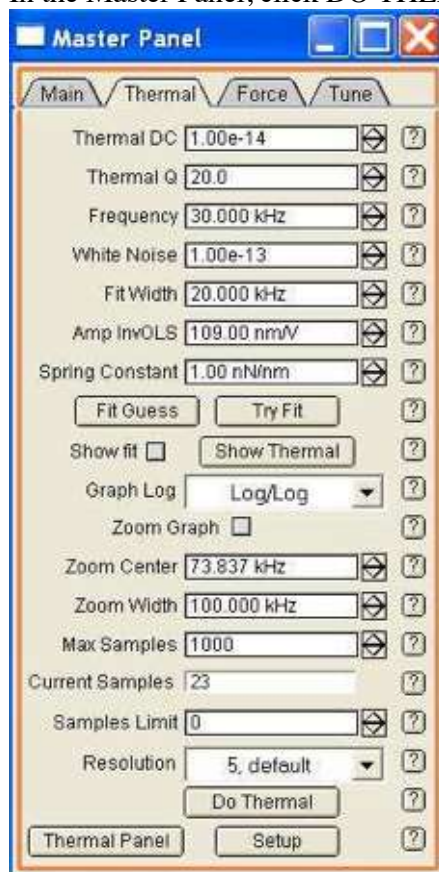

Figure 10.6 Master Panel, Thermal
1. In the Master Panel, click the Thermal tab to bring it to the front of the window (See: Figure 10.6 Master Panel, Thermal)
4. After a few tens of samples you will notice the graph does not change much. Click 'STOP THERMAL.' (See: Figure 10.6)